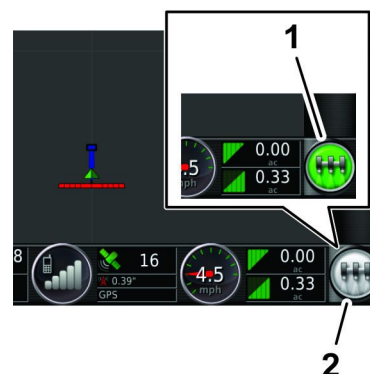

Figure 241
8. On the GeoLink control console, press the MASTER SWITCH icon (Figure 241) to the ON (green).